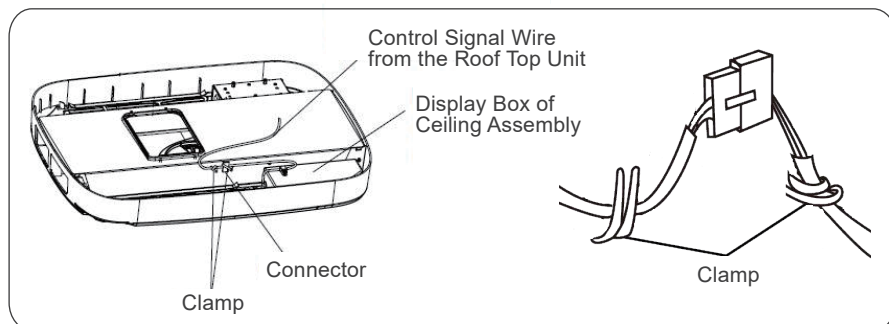

Figure 14
- Connect the connector of indoor and outdoor control signal wire and secure the clamp (see Figure 14).